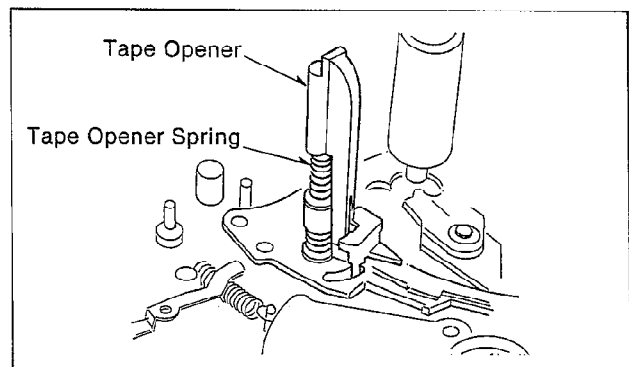

Fig. M24
- (6) Insert the Tape Opener Spring, and then fix the Tape Opener as shown in Fig.M24.